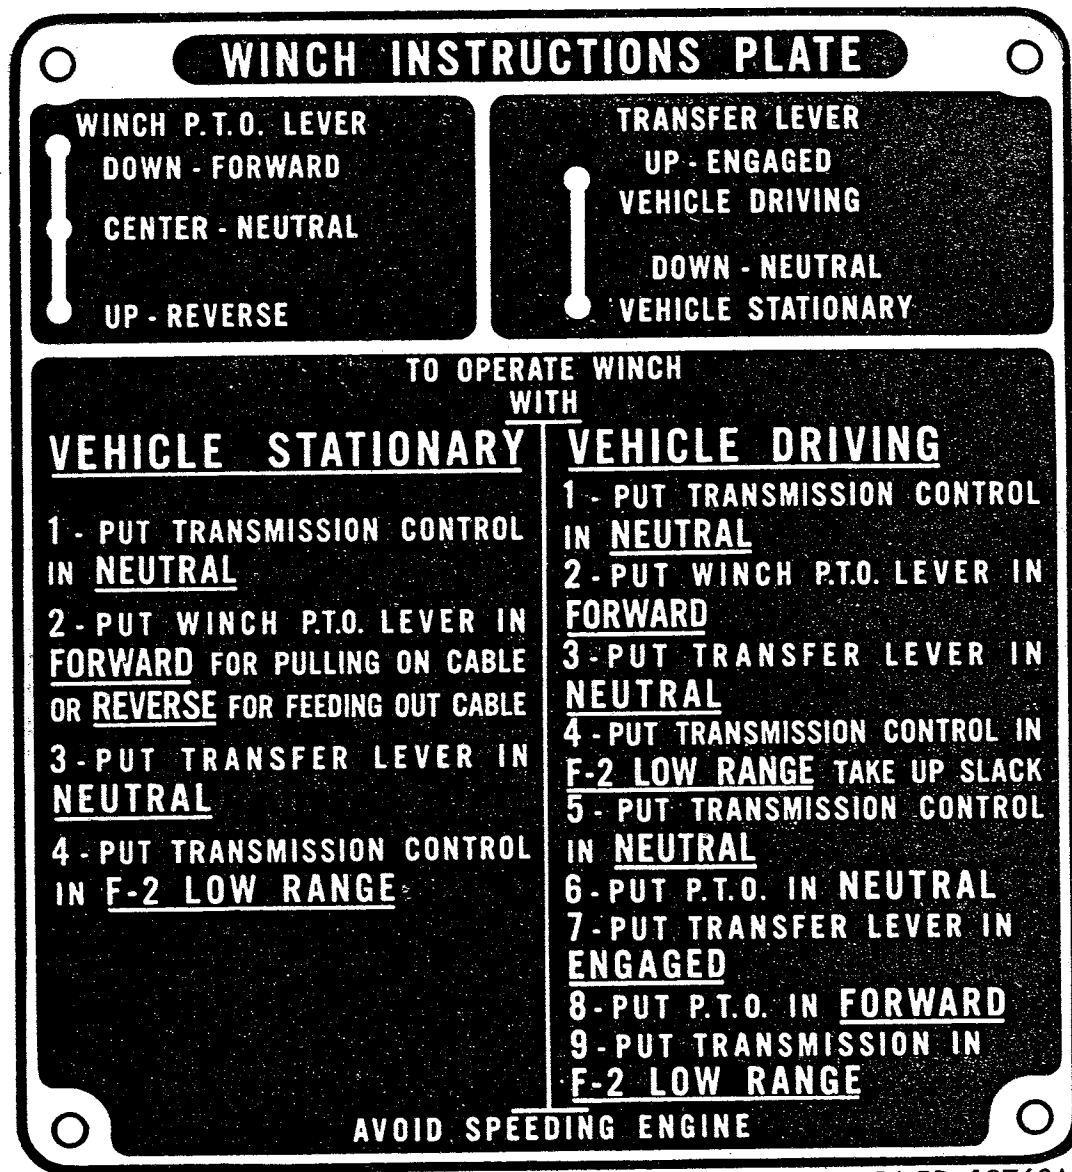

Figure 42. Winch instruction plate.
b. Power-Take-Off Lever. Engagement of the transfer-mounted power-take-off, which drives winch through a drive shaft, is obtained by means of a lever located to right of driver adjacent to transfer lever. The lever operates up and down in a three-position slot. Lever positions are indicated on an instruction plate on lever handle as described in (1), (2), and (3) below.
- (1) *DOWN FORWARD.* With lever in this position, wire rope cable can be wound in on drum.
- (2) *CENTER NEUTRAL.* With lever in center position on NEUTRAL, winch is inoperative except when hand-unwinding at winch.
- (3) *UP REVERSE.* With lever in this position, cable can be unwound under load.
c. Winch Instruction Plate (C, fig. 29). Plate (fig. 42) is mounted on instrument board instruction panel directly in front of driver. The plate includes shifting diagrams of winch power-take-off lever and transfer lever. Brief operating instructions are also shown.